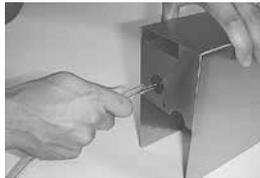

Figure 2
2. Install plastic tubing through the grommet provided in the front cover until approximately 5" of tubing remains. (See Figure 2)